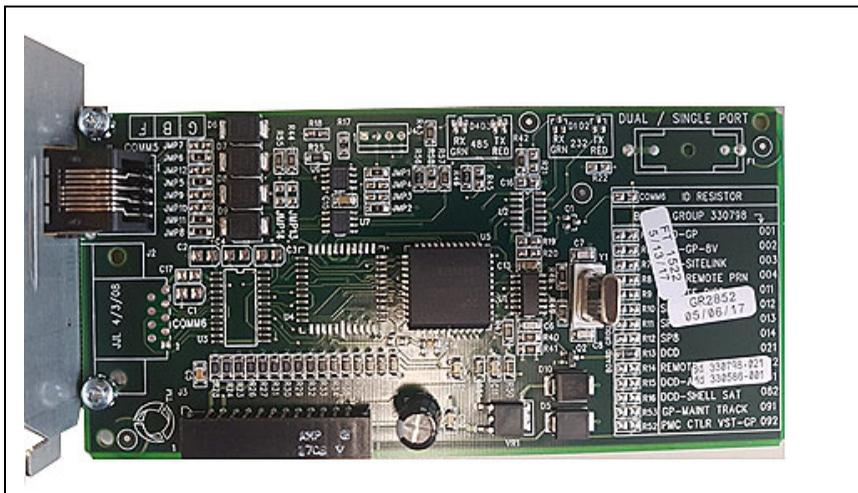

Figure 5. Single Port RS-485 Module For TLS-350R - DCD Configuration
- DIS-51 Interface Module for TLS-350R, provides single RS-485 Port, P/N 330799-001 (see Figure 5).